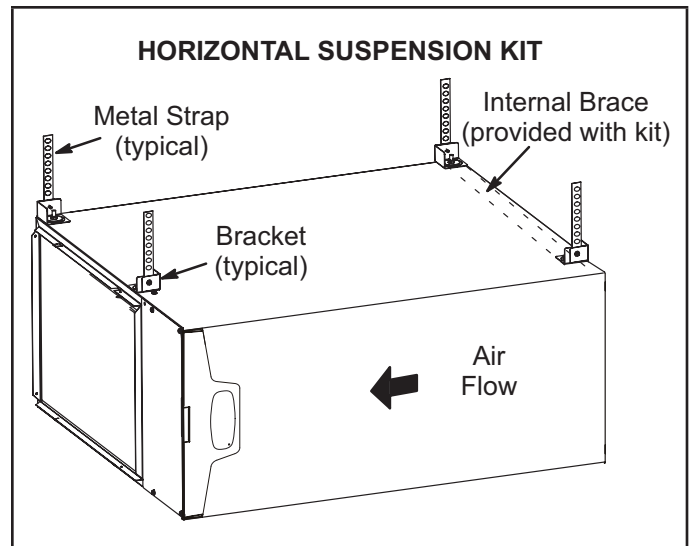

**FIGURE 17**
The EL195UHNE furnace can be installed in horizontal applications with either right- or left-hand air discharge. Refer to FIGURE 17 for clearances in horizontal applications
- 1 - Select location for unit keeping in mind service and other necessary clearances. See FIGURE 17.